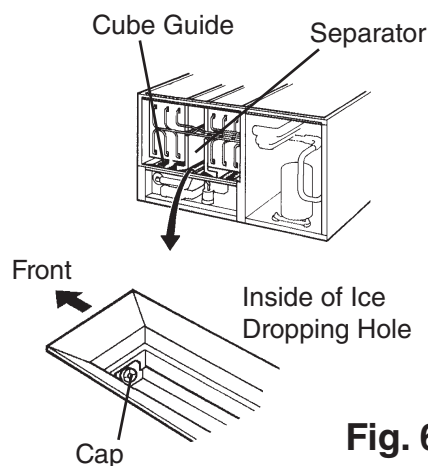

Fig. 6
- 2) Remove the insulation panel. Remove the cap located on the front bottom part of the ice dropping hole. Drain the water tank. See Fig. 6.